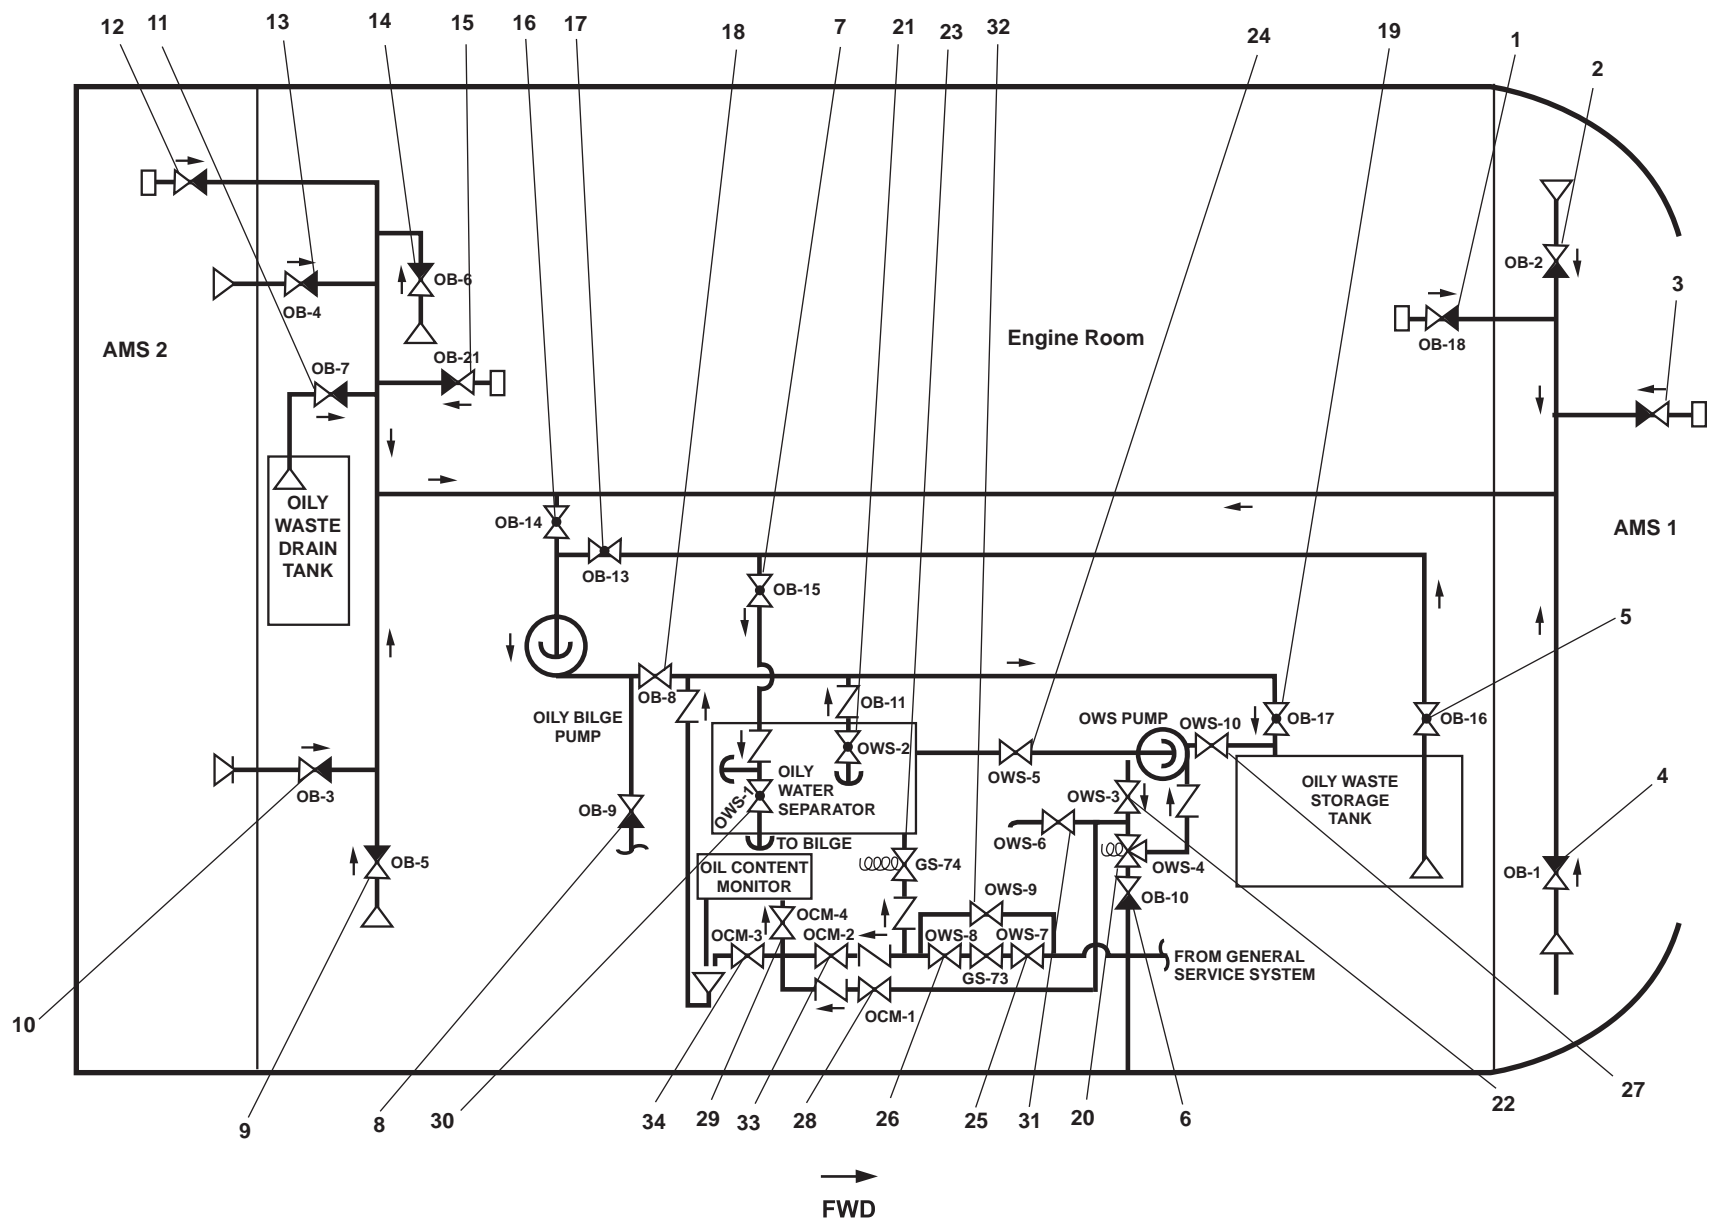

Figure 6. Oily Bilge Pump Piping System
- a. OB-18, HOSE CONN.- OILY BILGE SUCT. (figure 6, item 1)
- b. OB-2, OILY BILGE SUCT. (figure 6, item 2)
- c. AMS 1 1/2" flush connection (figure 6, item 3)
- d. OB-1, OILY BILGE SUCT. (figure 6, item 4)
- e. OB-16, OILY WASTE STOR. TK. SUCT. (figure 6, item 5)
- f. OB-10, OWS OVERBOARD DISCHARGE (figure 6, item 6)
- g. OB-15, OWS INLET (figure 6, item 7)
- h. OB-9, XFER PUMP DISCH TO SHORE (figure 6, item 8)
- i. OB-5, OILY BILGE SUCT. . ENG. RM. (figure 6, item 9)
- j. OB-3, OILY BILGE SUCT. SHAFT ALLEY (figure 6, item 10)
- k. OB-7, OILY DR. TK. SUCT. (figure 6, item 11)
- l. PORT shaft alley 1 1/2" flush connection (figure 6, item 12)
- m. OB-4, OILY BILGE SUCT. SHAFT ALLEY (figure 6, item 13)
- n. OB-6, OILY BILGE SUCT. ENG. RM. (figure 6, item 14)
- o. OB-21, HOSE CONN. – OILY BILGE SUCT. (figure 6, item 15)
- p. OB-14, C.O.V. – OILY BILGE PMP. SUCT. (figure 6, item 16)
- q. OB-13, OWT TO XFR PUMP SUCTION (figure 6, item 17)
- r. OB-8, OILY BILGE PMP DISCH. TO OILY WST.STOR. TK (figure 6, item 18)
- s. OB-17, OILY WATER TANK INLET (figure 6, item 19)
- a. OWS-4, OCM 3-WAY DIVERTER (figure 6, item 20), operator to LOCAL/SHUT
- b. OWS-2, OWS DISCHARGE (figure 6, item 21)
- c. OWS-3, OWS PUMP DISCHARGE (figure 6, item 22)
- d. GS-74, OWS BACKFLUSH INLET SOLENOID (figure 6, item 23)
- e. OWS-5, OWS DISCHARGE (figure 6, item 24)
- f. OWS-7, BACKFLUSH WTR TO PRESS RDCR (figure 6, item 25)
- g. OWS-8, BACKFLUSH WTR FROM PRESS RDCR (figure 6, item 26)
- h. OWS-10, OWS RECIRCULATING COV (figure 6, item 27)
- a. OCM-1, OCM NOZZLE SAMPLER COV (figure 6, item 28)
- b. OCM-4, OCM INLET (figure 6, item 29)
- c. OWS-1, OWS MANUAL BACKFLUSH (figure 6, item 30)